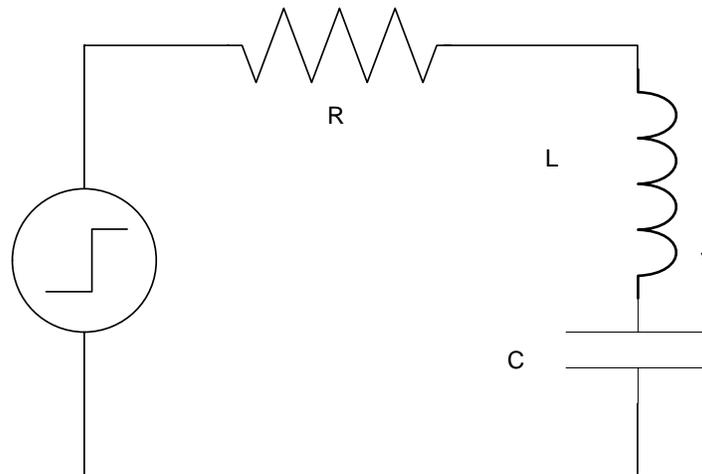

Fig. 1. The series RLC circuit.  $C=0.01 \mu\text{F}$ ,  $L=10 \text{ mH}$ .
1. (a) Construct the series RLC circuit in Figure 1. Observe the capacitor voltage.
- (j) Simulate the circuit of Figure 1 in PSpice. Use the same values of R as above to obtain the three types of response. Compare the simulated wave forms with the oscilloscope waveforms.